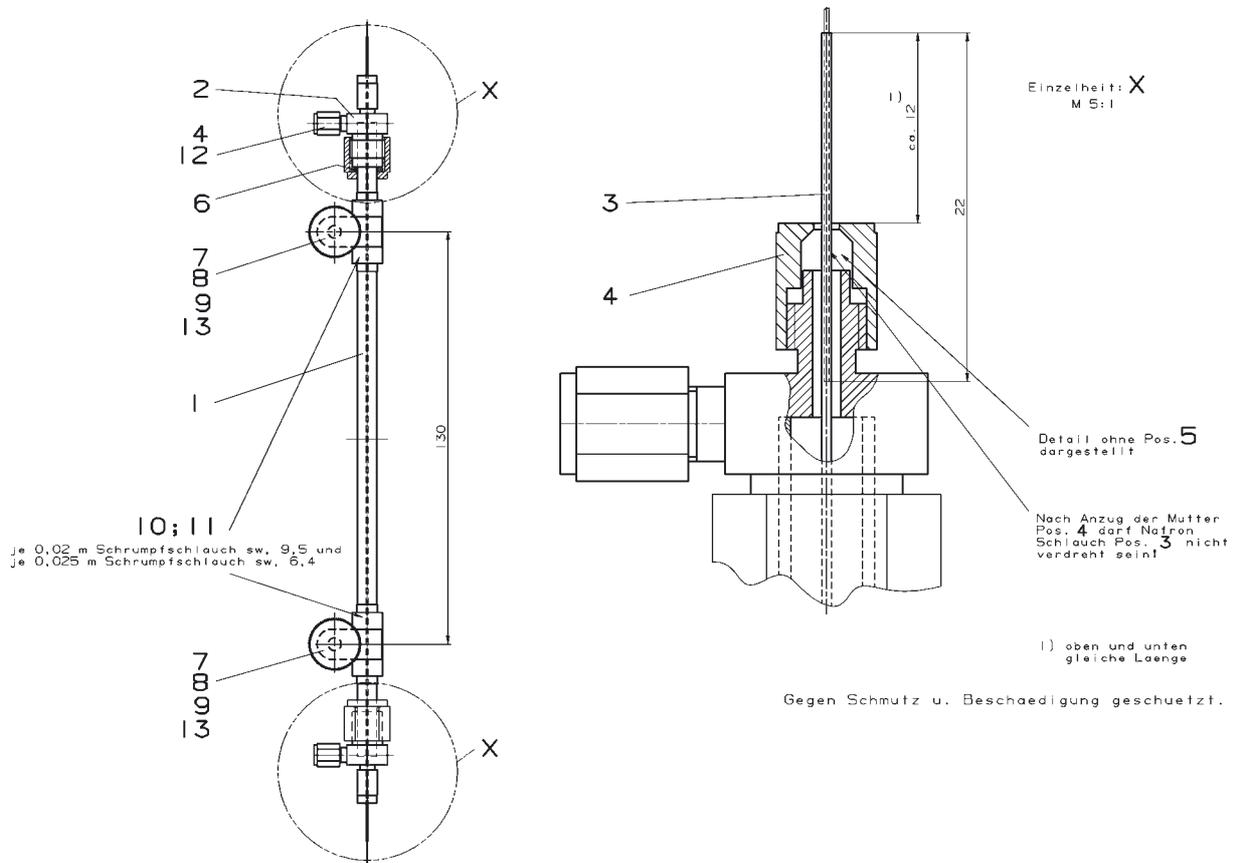

Figure 7-4. Schematic of Water Trap (Part No. 100 2605)
Table 7-3. Parts List Referring to Water Trap (Figure 7-4, Part No. 100 2605)
**Table 7-3. Parts List Referring to Water Trap (Figure 7-4, Part No. 100 2605)**